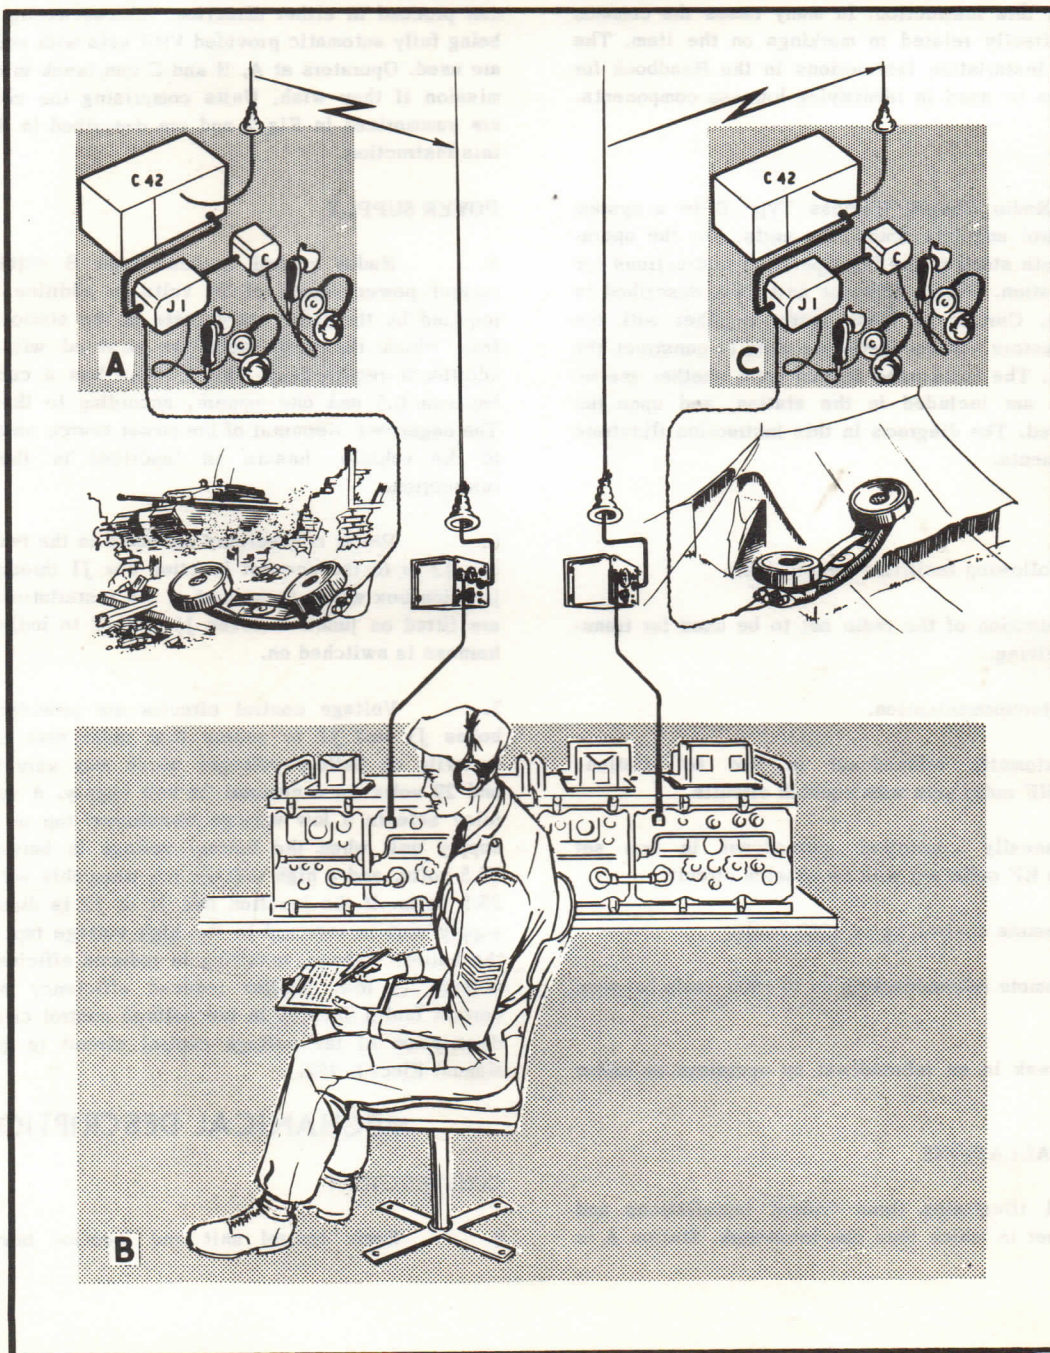

FIG 1 TYPICAL INSTALLATIONS
4. Fig 1 illustrates three typical installations and shows the manner in which they can inter-work. Station A is